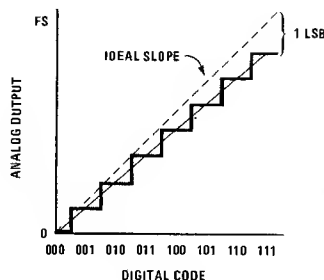
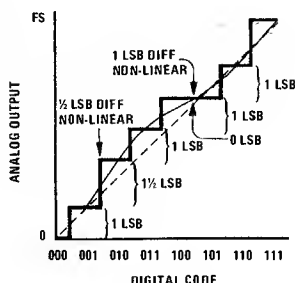
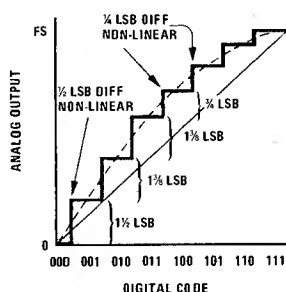
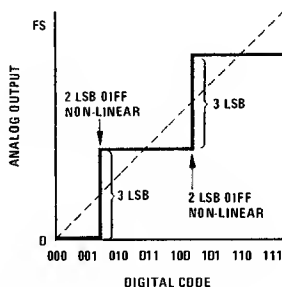

FIGURE 4. Linear, 1 LSB Scale Error
FIGURE 6.  $\pm \frac{1}{2}$  LSB Non-Linearity (Implies 1 LSB Possible Error), 1 LSB Differential Non-Linearity (Implies Monotonicity)
FIGURE 7. 1% LSB Non-Linear,  $\frac{1}{2}$  LSB Differential Non-Linearity
FIGURE 8.  $\pm 1$  LSB Linear,  $\pm 2$  LSB Differential Non-Linear
**Scale Error** (full scale error) is the departure from design output voltage of a DAC for a given input code, usually full-scale code. (See figure 4.) In an ADC it is the departure of actual input voltage from design input voltage for a full-scale output code. Scale errors can be caused by errors in reference voltage, ladder resistor values, or amplifier gain, *et al.* (See **Temperature Coefficient**.) Scale errors may be corrected by adjusting output amplifier gain or reference voltage. If the transfer curve resembles that of figure 7, a scale adjustment at  $\frac{1}{2}$  scale could improve the overall  $\pm$  accuracy compared to an adjustment at full scale.
Figure 6 shows a 3-bit DAC transfer curve with no more than  $\pm \frac{1}{2}$  LSB non-linearity, yet one step shown is of zero amplitude. This is within the specification, as the maximum deviation from the ideal straight line is  $\pm 1$  LSB ( $\frac{1}{2}$  LSB resolution error plus  $\frac{1}{2}$  LSB non-linearity). With any linearity error, there is a differential non-linearity (see below). A  $\pm \frac{1}{2}$  LSB linearity spec guarantees monotonicity (see below) and  $\leq \pm 1$  LSB differential non-linearity (see below). In the example of figure 6, the code transition from 100 to 101 is the worst possible non-linearity, being the transition from 1 LSB high at code 100 to 1 LSB low at 110. Any fractional non-linearity beyond  $\pm \frac{1}{2}$  LSB will allow for a non-monotonic transfer curve. Figure 7 shows a typical non-linear curve; non-linearity is 1% LSB yet the curve is smooth and monotonic.
Differential Non-Linearity indicates the difference between actual analog voltage change and the ideal (1 LSB) voltage change at any code change of a DAC. For example, a DAC with a 1.5 LSB step at a code change would be said to exhibit  $\frac{1}{2}$  LSB differential non-linearity (see figures 6 and 7). Differential non-linearity may be expressed in fractional bits or in % FS.
Differential linearity specs are just as important as linearity specs because the apparent quality of a converter curve can be significantly affected by differential non-linearity even though the linearity spec is good. Figure 6 shows a curve with a  $\pm \frac{1}{2}$  LSB linearity and  $\pm 1$  LSB differential non-linearity while figure 7 shows a curve with  $\pm 1\%$  LSB linearity and  $\pm \frac{1}{2}$  LSB differential non-linearity. In many user applications, the curve of figure 7 would be preferred over that of figure 6 because the curve is smoother. The differential non-linearity spec describes the smoothness of a curve; therefore it is of great importance to the user. A gross example of differential non-linearity is shown in figure 8 where the linearity spec is  $\pm 1$  LSB and the differential linearity spec is  $\pm 2$  LSB. The effect is to allow a transfer curve with grossly degraded resolution; the normal 8-step curve is reduced to 3 steps in figure 8. Similarly, a 16-step curve (4-bit converter) with only 2 LSB differential non-linearity could be reduced to 6 steps (a 2.6-bit converter?). The real message is, "Beware of the specs." Do not ignore or omit differential linearity characteristics on a converter unless the linearity spec is tight enough to guarantee the desired differential linearity. As this characteristic is impractical to measure on a production basis, it is rarely, if ever, specified, and linearity is the primary specified parameter. Differential non-linearity can always be as much as twice the non-linearity, but no more.